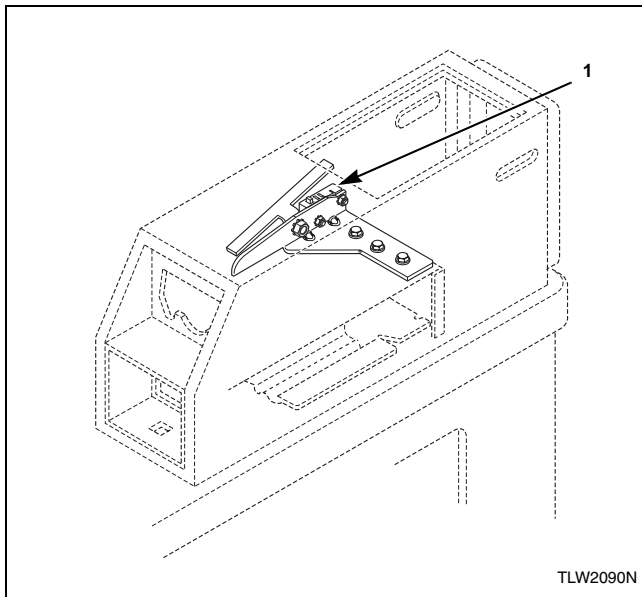

Figure 38
**NOTE:** During coin slide installation, make sure activation lever is up and off the switch. Refer to *Figure 38*.